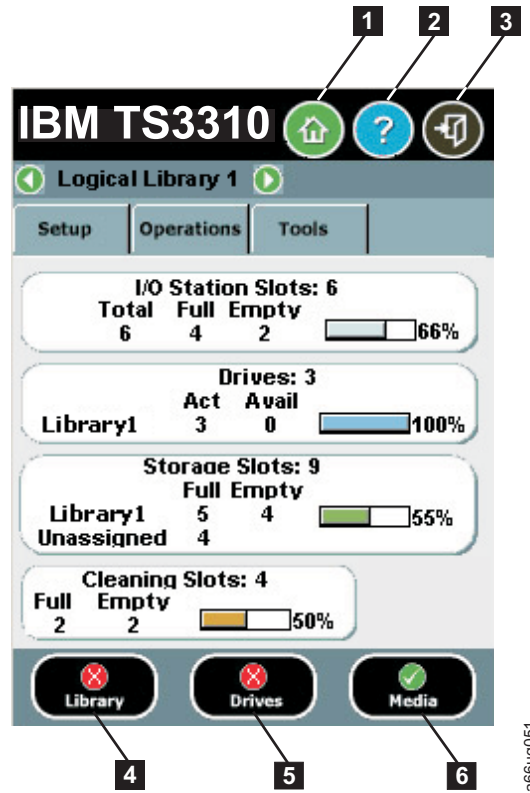

Figure 4-1. Operator Panel common header elements and subsystem status buttons
- **Home** (1 in Figure 4-1) - displays the default **Capacity View** screen.
- **Help** (2 in Figure 4-1) - context-sensitive help for the associated page
- **Logout** (3 in Figure 4-1) - ability to log out
- **Library** (4 in Figure 4-1)- opens a library menu selection screen and then the operator interventions for the library.
- **Drives** (5 in Figure 4-1)- opens the operator intervention screen for drives.
- **Media** (6 in Figure 4-1)- opens the operator intervention screen for media.